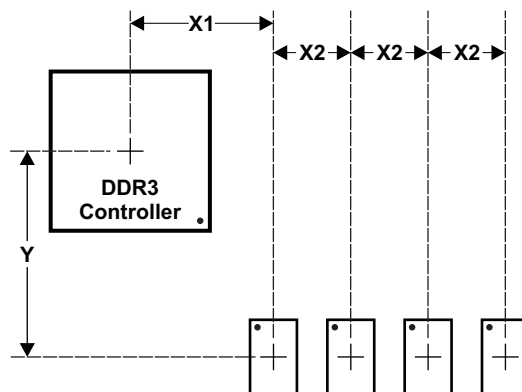
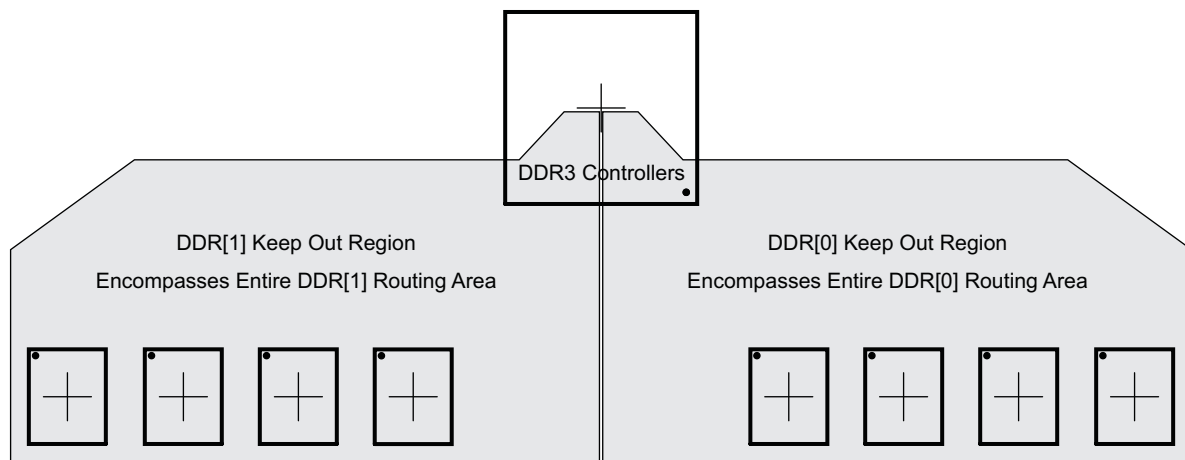

Figure 8-15. Placement Specifications
Figure 8-16. DDR3 Keepout Region
Figure 8-15 shows the required placement for the processor as well as the DDR3 devices. The dimensions for this figure are defined in Table 8-19. The placement does not restrict the side of the PCB on which the devices are mounted. The ultimate purpose of the placement is to limit the maximum trace lengths and allow for proper routing space. For a 16-bit DDR memory system, the high-word DDR3 device(s) are omitted from the placement.
- (1) For dimension definitions, see Figure 8-15.
(2) Measurements from center of processor to center of DDR3 device.
(3) Minimizing X1 and Y improves timing margins.
(4) w is defined as the signal trace width.
(5) Non-DDR3 signals allowed within DDR3 keepout region provided they are separated from DDR3 routing layers by a ground plane.
(6) Note that DDR3 signals from one DDR3 controller are considered *non-DDR3* to the other controller. In other words, keep the two DDR3 interfaces separated by this specification.
The region of the PCB used for DDR3 circuitry must be isolated from other signals. The DDR3 keepout region is defined for this purpose and is shown in Figure 8-16. The size of this region varies with the placement and DDR routing. Additional clearances required for the keepout region are shown in Table 8-19. Non-DDR3 signals should not be routed on the DDR signal layers within the DDR3 keepout region. Non-DDR3 signals may be routed in the region, provided they are routed on layers separated from the DDR signal layers by a ground layer. No breaks should be allowed in the reference ground layers in this region. In addition, the 1.5-V DDR3 power plane should cover the entire keepout region. Also note that the two DDR3 controller's signals should be separated from each other by the specification in Table 8-19, item 5.